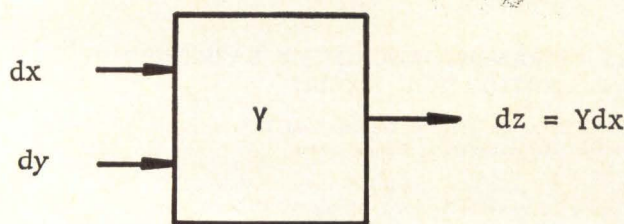
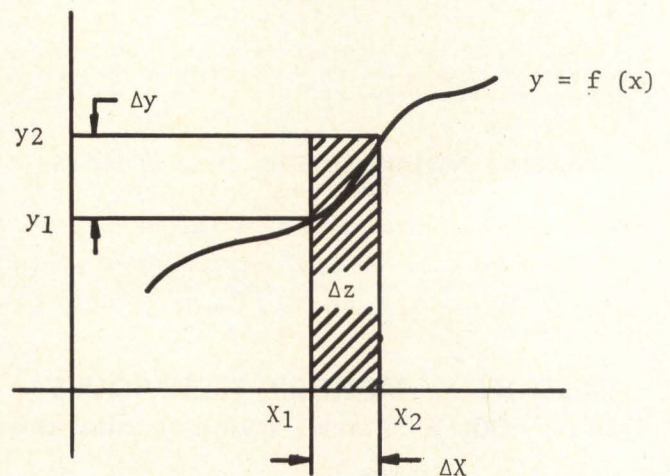

Fig. 1: Block diagram of integrator unit.
Fig. 2: Approximation of integral by rectangular summation.
The DDA was developed about 20 years ago,² to provide a greater precision than could be obtained using analog computers. It is composed of a set of integrator units that perform an integration by summing incremental areas under the curve of the function to be integrated. The basic block diagram for such a unit is shown in Fig. 1: For the arbitrary function $Y = f(x)$ shown in Fig. 2, a rectangular area, Δz , is added to the integrator unit each time an iteration is performed; when all the Δz areas under the curve have been summed, an approximation to the integral Ydx is obtained. The value of this approximation approaches the value of the integral as Δx approaches zero; therefore, the accuracy of the integration process can be increased at the expense of increased computation time by decreasing the Δx increments.
The method for setting up a differential equation on a DDA is similar to that used for an analog computer. The basic properties of the integrator unit shown in Fig. 1 are (1) the dy input is integrated in the unit to obtain a Y value; and (2) this value is multiplied by the dx input to give a resulting output of Ydx , which is called dz . The general procedure involved in setting up a problem for integrator units having such properties is as follows^{1,5}: